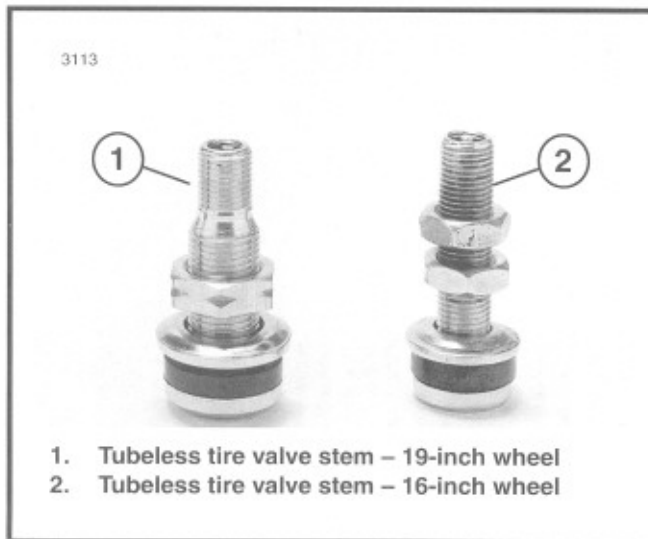

Figure 2-37. Tubeless Tire Valve Stem
1. See Figure 2-37. On tubeless wheels, damaged or leaking valve stems must be replaced. Place rubber grommet on valve stem with shoulder in recess of the valve stem head.